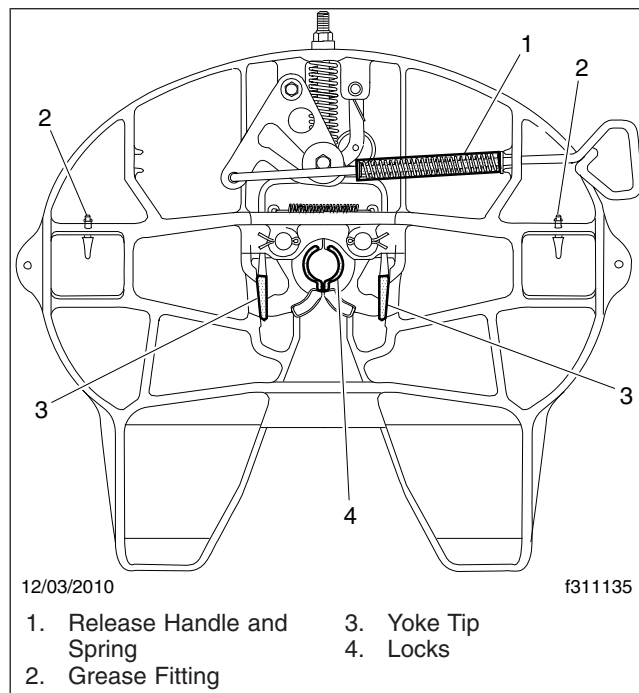

Fig. 10, Holland FW35 Fifth Wheel, Grease Lubrication
3. Grease the yoke tips, locks, and the release handle and spring; see **Fig. 10**. Grease the mounting bracket supports through the grease fittings. A “low temp” grade grease rated for -30°F (-34°C) or lower such as Cato Oil and